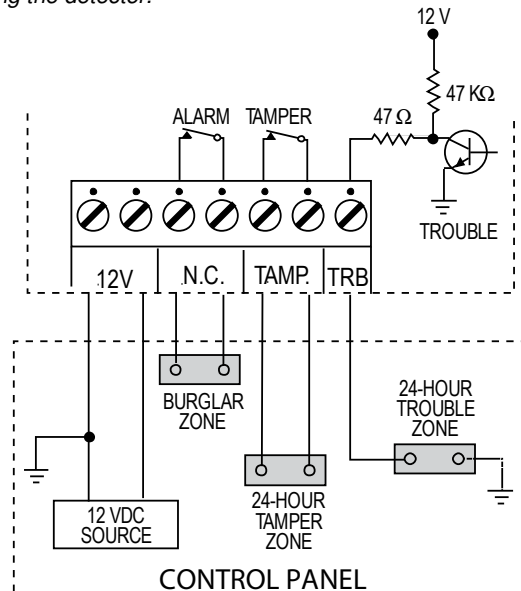

Figure 4. Terminal Block Wiring
**Trouble Output:** Open-collector, 100 mA max. serial resistor 47  $\Omega$ , pull-up resistor 47 K $\Omega$  (see Fig. 4)
Connect wires to the terminal block in the following order (Fig. 4):
**Connect to:** 24-hour trouble zone, parallel to an E.O.L. resistor (see Figure 4).